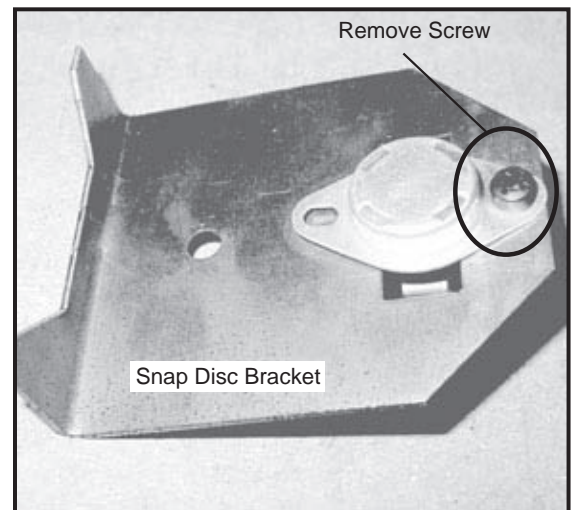

Figure 20.2
6. Using a #2 Philips screwdriver, remove the screw securing the snap disc to the bracket. **Figure 20.2.**